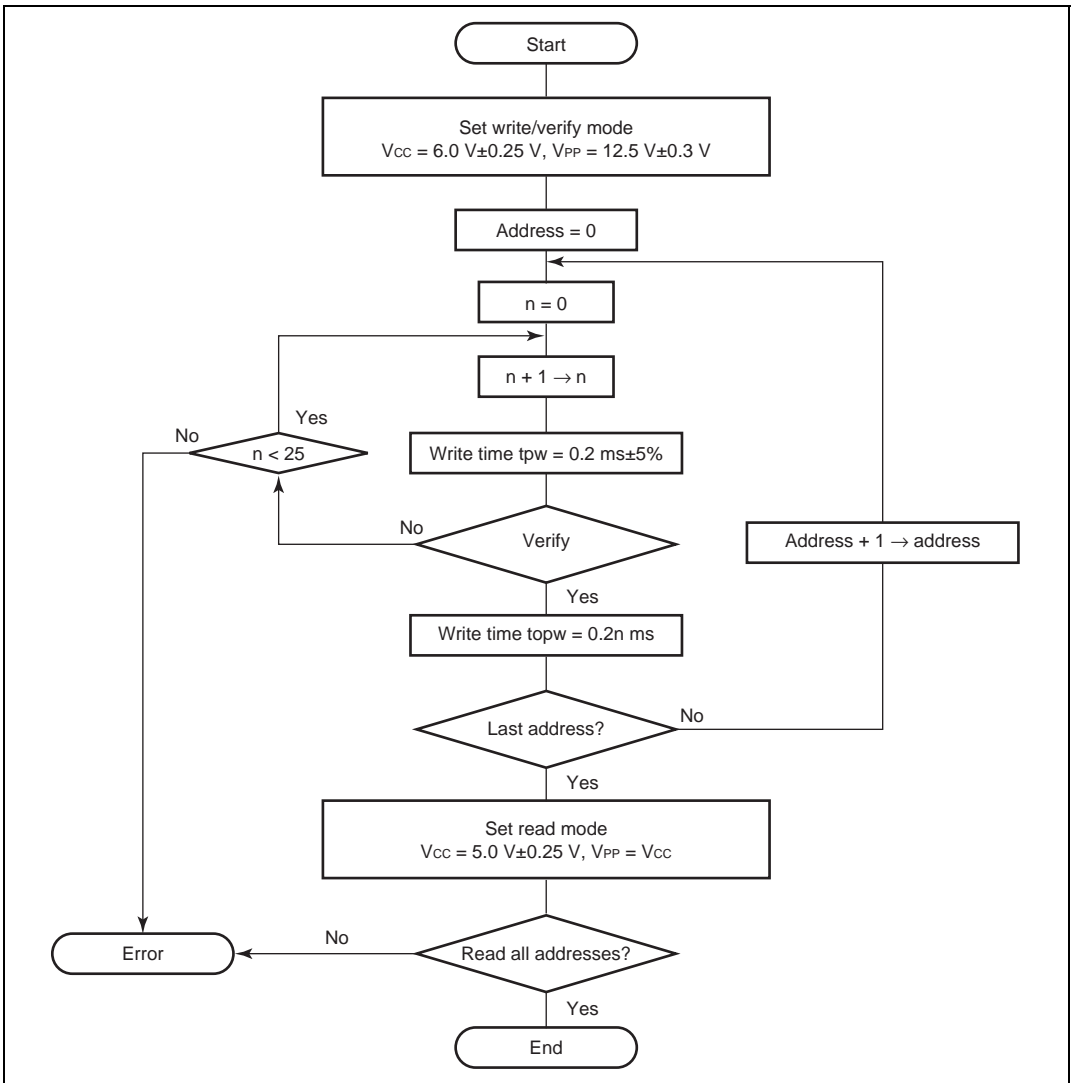

Figure 6.4 High-Speed, High-Reliability Programming Flowchart
The basic flow of this high-speed, high-reliability programming method is shown in figure 6.4.
- t_{OPW} is defined by the value given in figure 6.4, High-Speed, High-Reliability Programming Flow Chart.